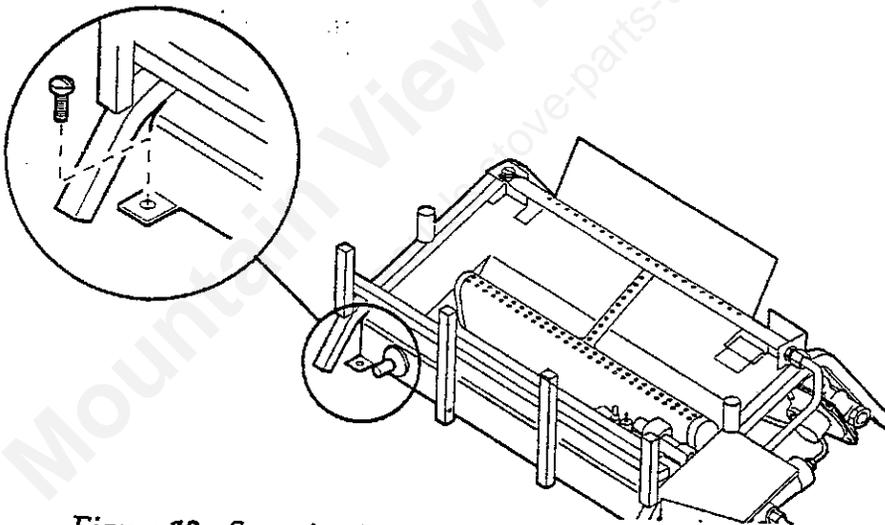

Figure 12: Securing Heater to Floor of Fireplace/Firebox
2. Two anchor holes are provided in the front of grate frame. After centering the grate correctly, mark the hole positions on the fireplace/firebox floor. Drill two (2) 5/32" diameter holes approximately 1 1/2" deep.
3. Anchor the grate to the fireplace/firebox floor using the screws provided. Refer to *Figure 12*.